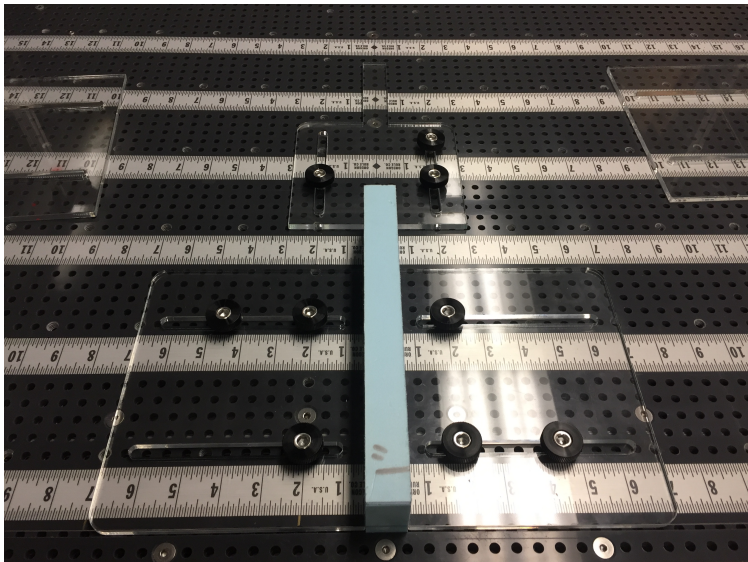

Figure 2.4: Secure the Foam Step 6
6. Secure the back of the foam with another acrylic plate and secure with 3 thumb screws as shown in fig 2.4 below.